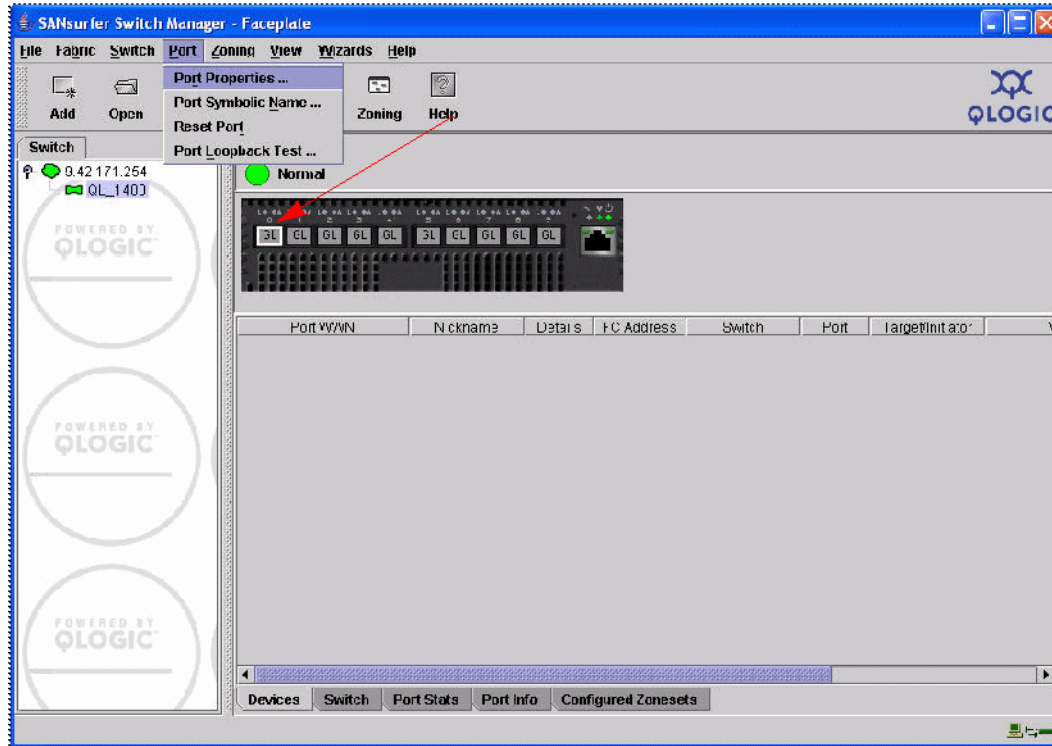

Figure 7-38 Port Properties window
- From the SANsurfer Switch Manager Faceplate, select your desired E-Port. Next, select **Port** → **Port Properties** (Figure 7-38). In our example, we designated port 0.